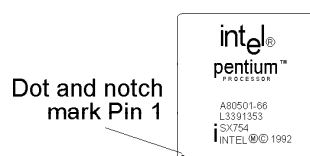

Figure 2-2 The markings on top of a CPU
1. Locate a small dot marked on the top surface of the CPU close to one of its corners. The same corner will also be cut off, leaving a noticeable notch in the CPU's corner. These markings indicate Pin 1 of the CPU. See Figure 2-2.